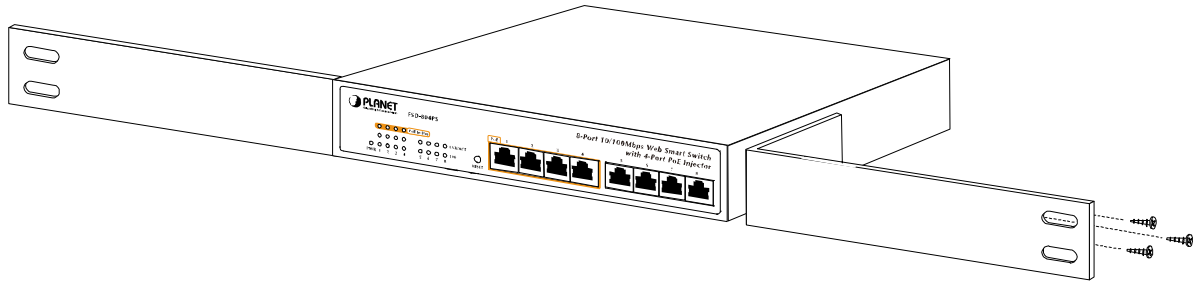

Figure 2-4 Attaching the brackets to the Switch.
Step2: Attach a rack-mount bracket to each side of the Switch with supplied screws attached to the package. Figure 2-4 shows how to attach brackets to one side of the Switch.